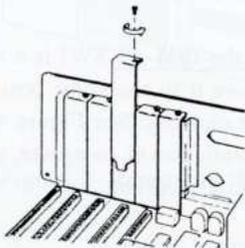

Figure 5: Removing the Expansion Slot Cover
5. Locate an available expansion slot and remove the screw that holds the slot cover in place. Then remove the expansion slot cover. See Figure 5.